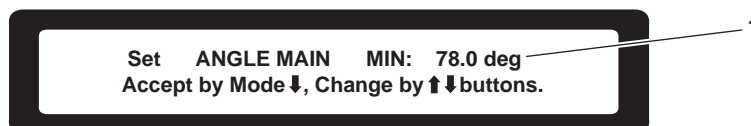

Figure 23. Maximum Angle Alarm Setting Screen
5. Press the MODE button (figure 2, item 3) and the down arrow button (figure 2, item 4) on the LMI receiver panel (figure 2, item 2) to reach the maximum angle alarm setting screen (figure 23).
6. Press the down arrow button (figure 2, item 4) or the up arrow button (figure 2, item 5) on the LMI receiver panel (figure 2, item 2) until the readout (figure 23, item 1) displays the angle value desired.